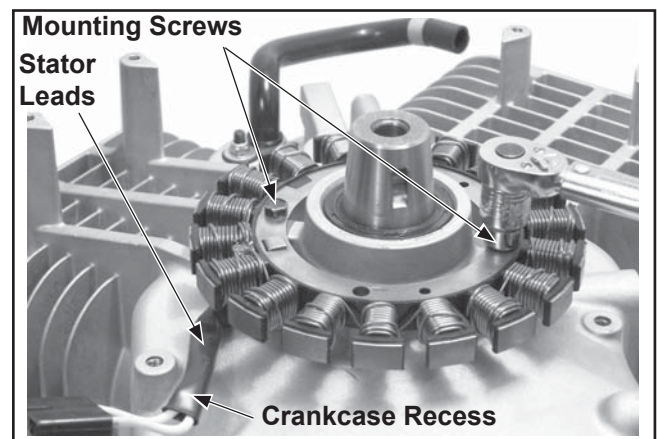

Figure 10-32. Installing Stator.
3. Install and torque the two hex flange screws to **6.2 N·m (55 in. lb.)**. See Figure 10-32.
4. Route the stator leads in the crankcase recess, then install the backing plate. Secure with the four hex flange screws. See Figures 10-32 and 10-33. Torque the screws in the indicated sequence to 7.3 N·m (65 in. lb.).